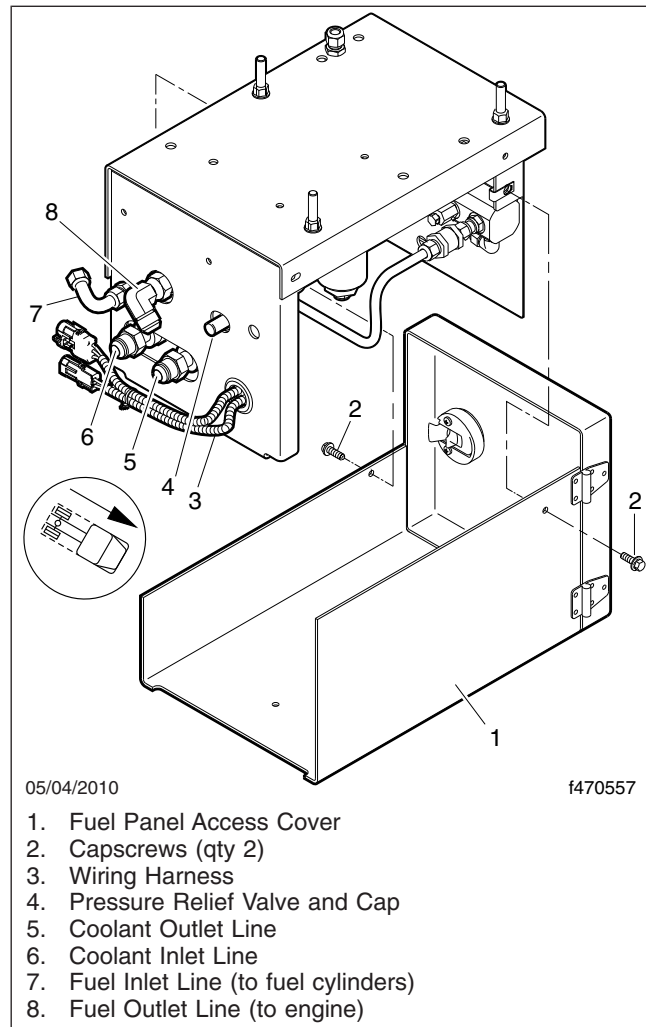

Fig. 11.17, CNG Fuel Panel Assembly
- 2.3 Remove the two capscrews that secure the access cover to the fuel panel, then remove the access cover. See Fig. 11.17. Save the capscrews for installation.